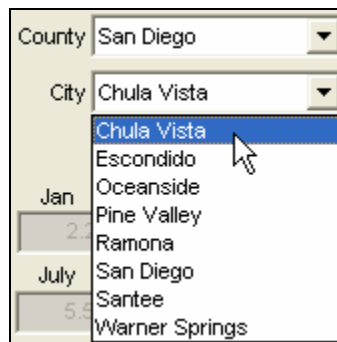

Figure 16.4.13B
- Next use the drop down arrow next to the **City** within that county (Figure 16.4.13B).